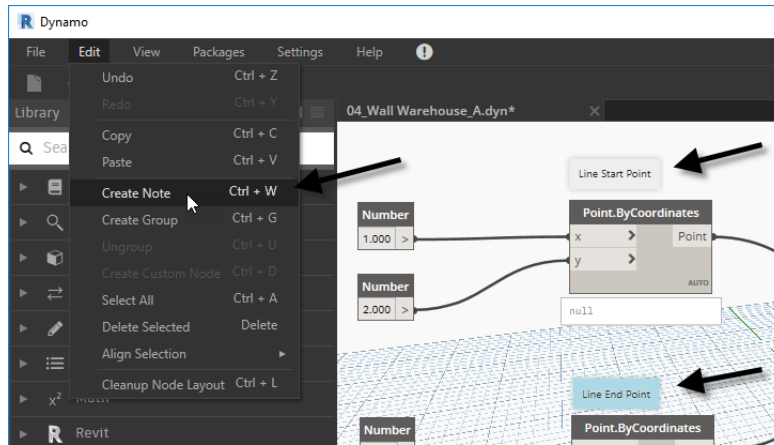

FIGURE 40
9. Create a second note, position above the other *Point.ByCoordinates* node, double-click it and change it to read: **Line End Point** (See Figure 40).